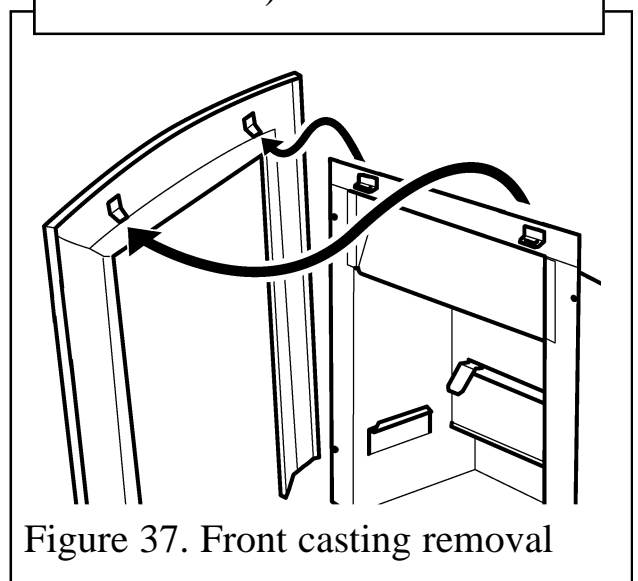

Figure 37. Front casting removal
2. Hold the sides of the fascia and lift clear of the support brackets (See figure 37).